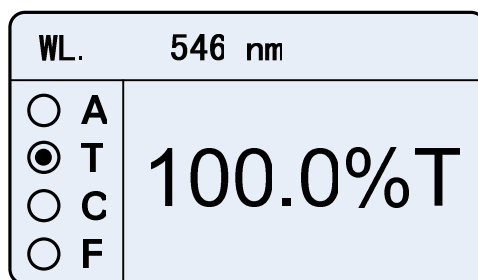

Fig. 4-4
- 1) Press  to choose the mode of "T" (Fig. 4-4);